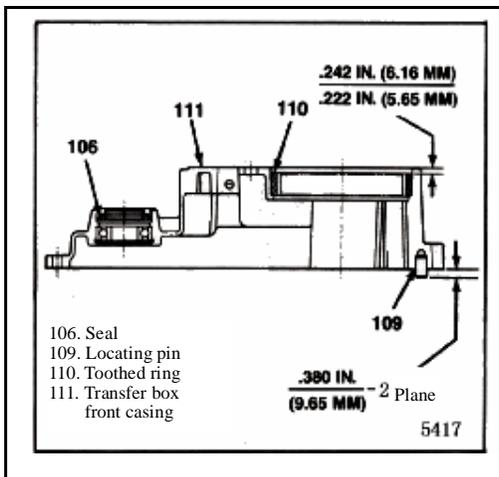

Fig. 5-2
1. When a new toothed ring (110) is pressed in to replace the old, ensure that the tooth-shaped protrusion on the new toothed ring is aligned with the corresponding groove on transfer box front casing (111), and that the toothed ring is pressed to the dimension as shown in Fig. 5-2 with its chamfer entering first. Make sure that the toothed ring is free from buckling and fixed on the casing firmly.
2. If the 2 locating pins are removed, install 2 new locating pins (109) into the casing as shown in Fig. 5-2.
3. Press bearing (108) into transfer box front casing (111) and install retaining ring (107) .
4. Place and press new seal (106) into the casing as shown in Fig. 5-2.